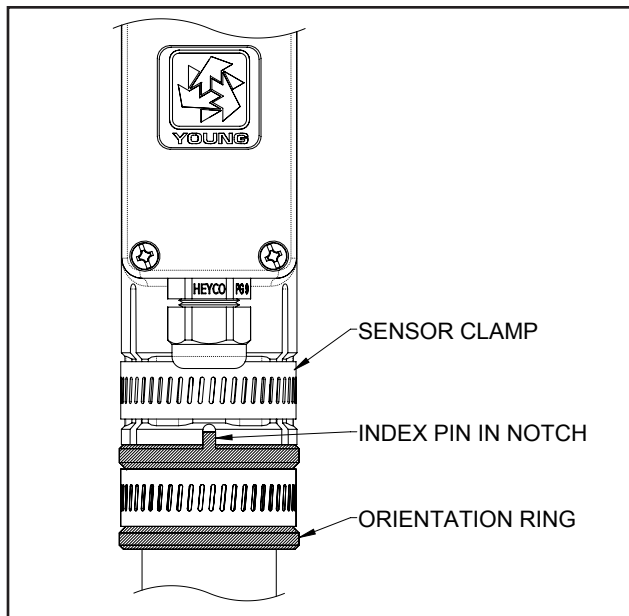

Fig 4.2.2 Proper Engagement of Orientation Ring with Sensor
- 4 Slide the orientation ring up so its guide pin is fully engaged in the sensor mounting post notch (Fig 4.2.2). Tighten the orientation ring band clamp to secure its position. **DO NOT OVER-TIGHTEN.**